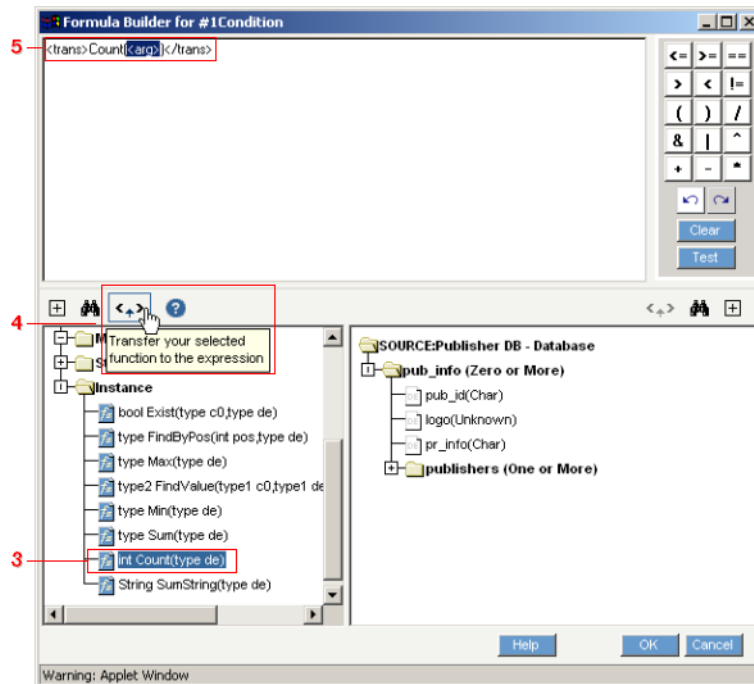

Figure 22-8. Select the appropriate formula from the pane at the left, then click the **Insert** button to start building your expression.
- ③ The Formula Builder should appear. Open the **Instance** folder in the left pane, and select the **Count()** function.
- ④ Click the **Insert** button to add this function to your expression.
- ⑤ The new expression appears in the pane at the top of the dialog (see Figure 22-8 below).